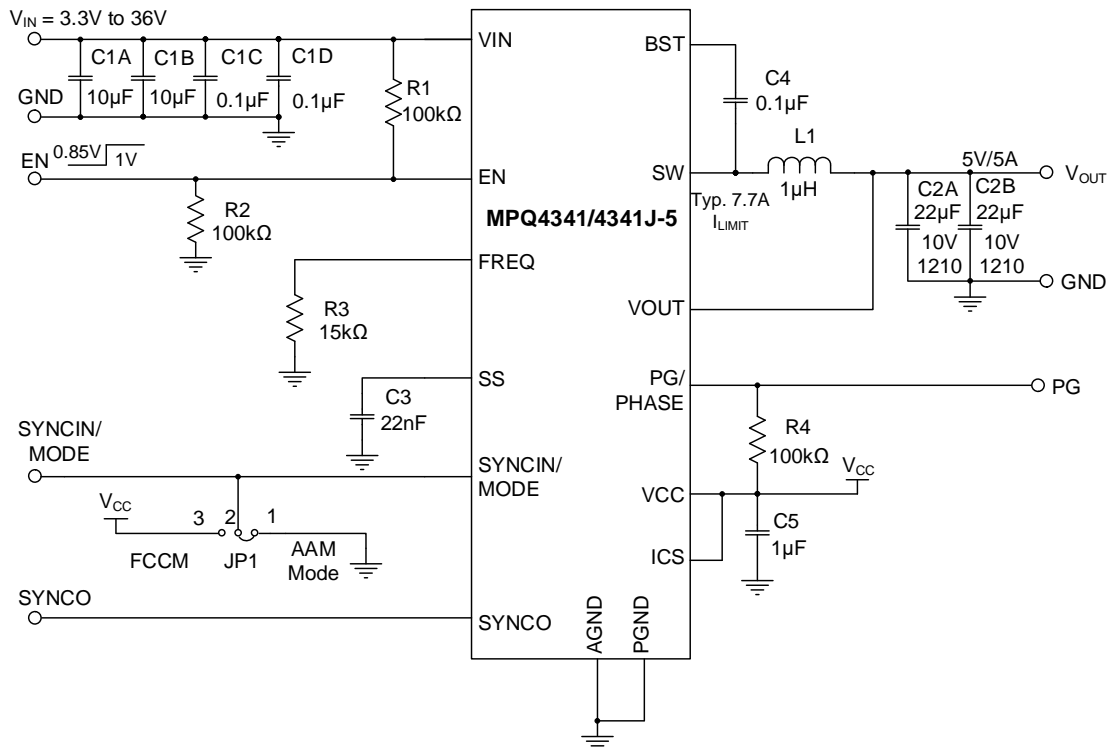

Figure 12: Typical Application Circuit (1-Phase, $V_{OUT} = 5V$, $f_{sw} = 2.2MHz$)
12) The recommended PCB layout is based on Figure 12 on page 50.